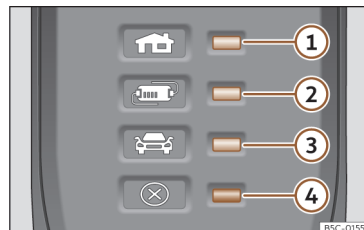

Fig. 66 On the charging cable for power sockets: Indicator lamps on the protection device.
>>> **Fig. 66:**
The electronic protection device >>> Fig. 66 ensures that the charging connector does not receive current until it is plugged in to the vehicle's charging connector.
One or more control lamps >>> Fig. 66 ①, ② or ③ light up green.
Display >>> Fig. 66	Meaning
①, ④ flashing	The housing connector has overheated.
②, ④ flashing	The protection device has overheated.
If the charging process continues with a lower current, both the operating indicator and the warning lamp >>> Fig. 66 ④ flash red.
- If it disconnects again, or the charging current reduces and the cause does not seem to be exposure to an external heat source, make sure that the green control lamp is flashing >>> Fig. 66. Visit a specialised CUPRA dealer or any SEAT network dealer to check the charging cable. Get an establishment that specialises in electrical installations to check the infrastructure connection.
If the red warning light ④ flashes or turns on without one of the indicator lamps >>> Fig. 66 ①, ② or ③ also turning on continuously on the status indicator, there is a fault.